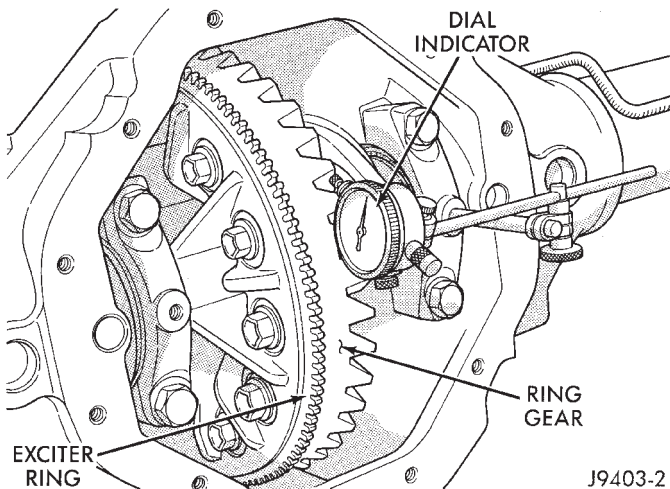

Fig. 58 Ring Gear Backlash Measurement
(2) Install dial indicator and position the plunger against the drive side of a ring gear tooth (Fig. 58). Measure the backlash at 4 positions (90 degrees apart) around the ring gear. Locate and mark the area of minimum backlash.
(3) Rotate the ring gear to the position of the least backlash. Mark the gear so that all future backlash measurements will be taken with the same gear teeth meshed.
(4) Loosen the right-side, tighten the left-side threaded adjuster. Obtain backlash of 0.003 to 0.004 inch (0.076 to 0.102 mm) with each adjuster tightened to 14 N·m (10 ft. lbs.). Seat the bearing cups with the procedure described above.
(5) Tighten the differential bearing cap bolts 95 N·m (70 ft. lbs.).